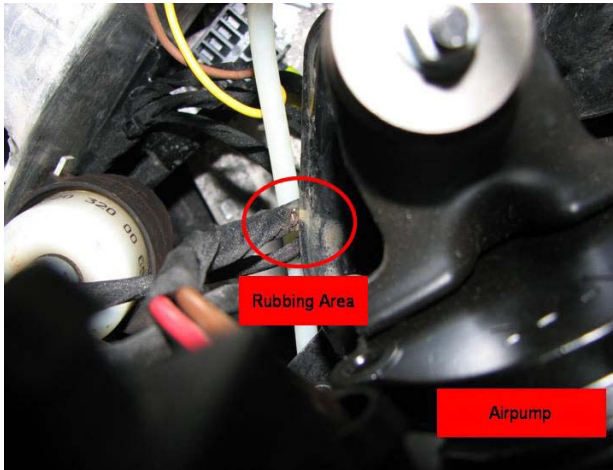

Figure 1
5. Check the routing of the compressor cable in the vicinity of the right front headlamp from the compressor towards the A-pillar (Figure 1).